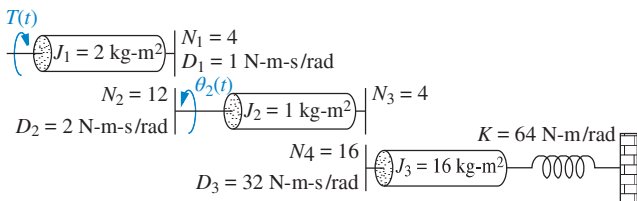

FIGURE P2.21
36. For the rotational system shown in Figure P2.21, find the transfer function,  $G(s) = \theta_2(s)/T(s)$ . [Section: 2.7]